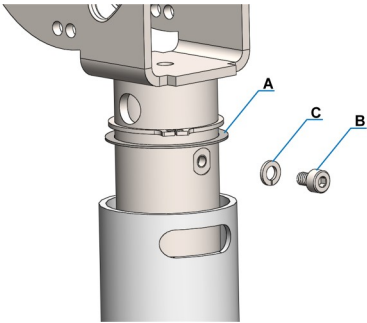

Figure 19: Remove stop screw.
2. With covers removed, use a 3mm Allen key to remove the rotational stop screw (B) and lock washer (C) from the back of spring arm post. Take care to ensure the lock washer (C) and shim washer (A) do not fall off during this step. See **Figure 19**.
4. Slide the spring arm into the mounting post. Ensure the washer (A) is present and did not fall off the spring arm shaft.